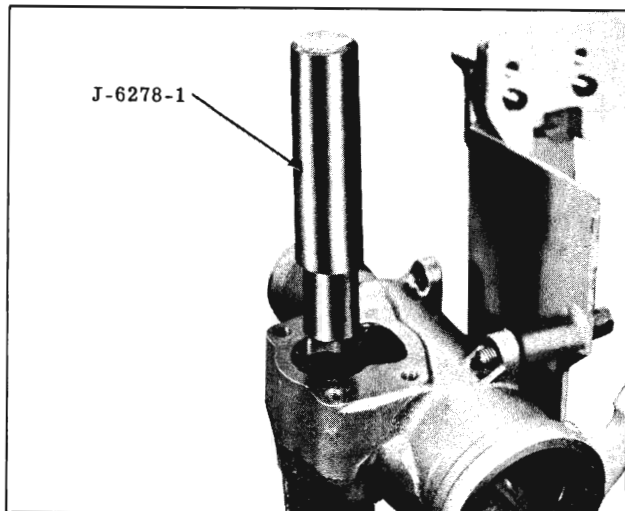

Fig. 4-61 Needle Bearing and Seal Removal
2. If pitman shaft needle bearing replacement is necessary, remove the seal retaining ring, outer steel washer, then drive needle bearing, seals and inner washer out with Tool J-6278-1. (Fig. 4-61)